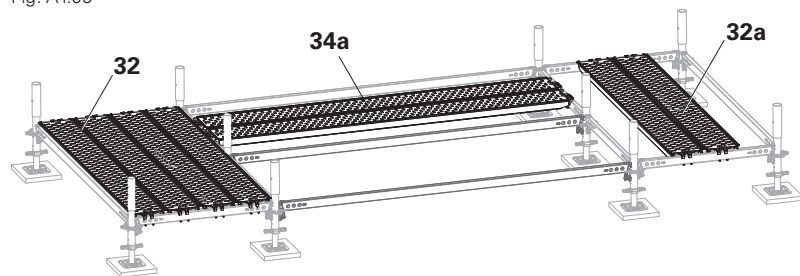

Fig. A1.06
4. Place Steel Decks UDG-2 200 (**32 + 32a**) on the horizontal ledgers (**5**) one after the other. (Fig. A1.06)